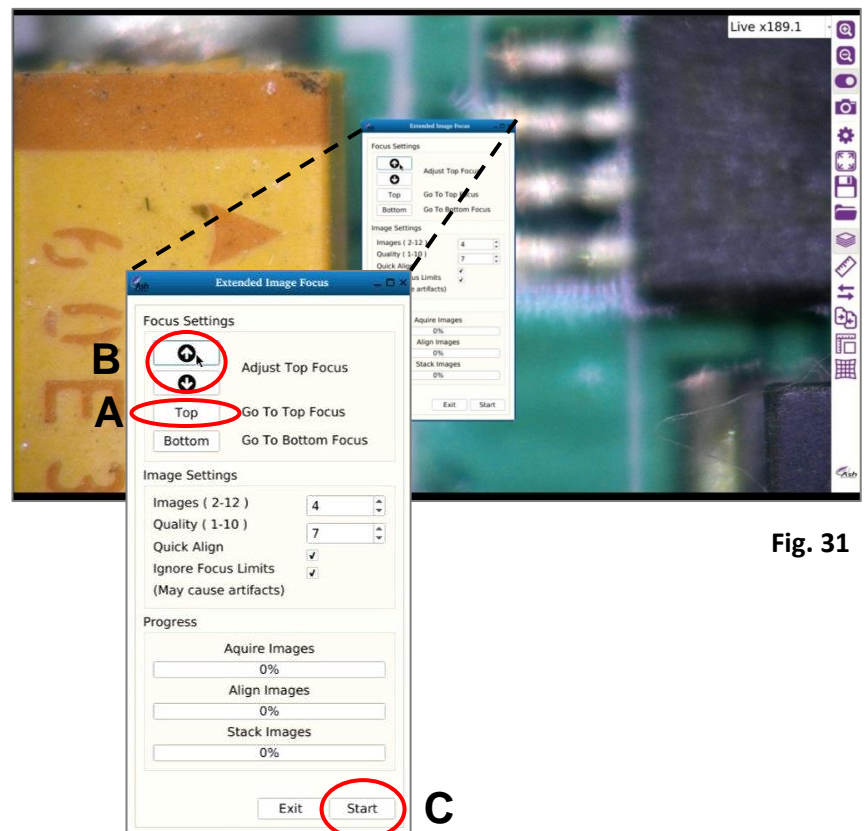

Fig. 31
3. Now (A) click on the **Go to Top Focus** button, then (B) adjust the focus using the up/down arrows in the **Adjust Top Focus** Section (Fig. 31).